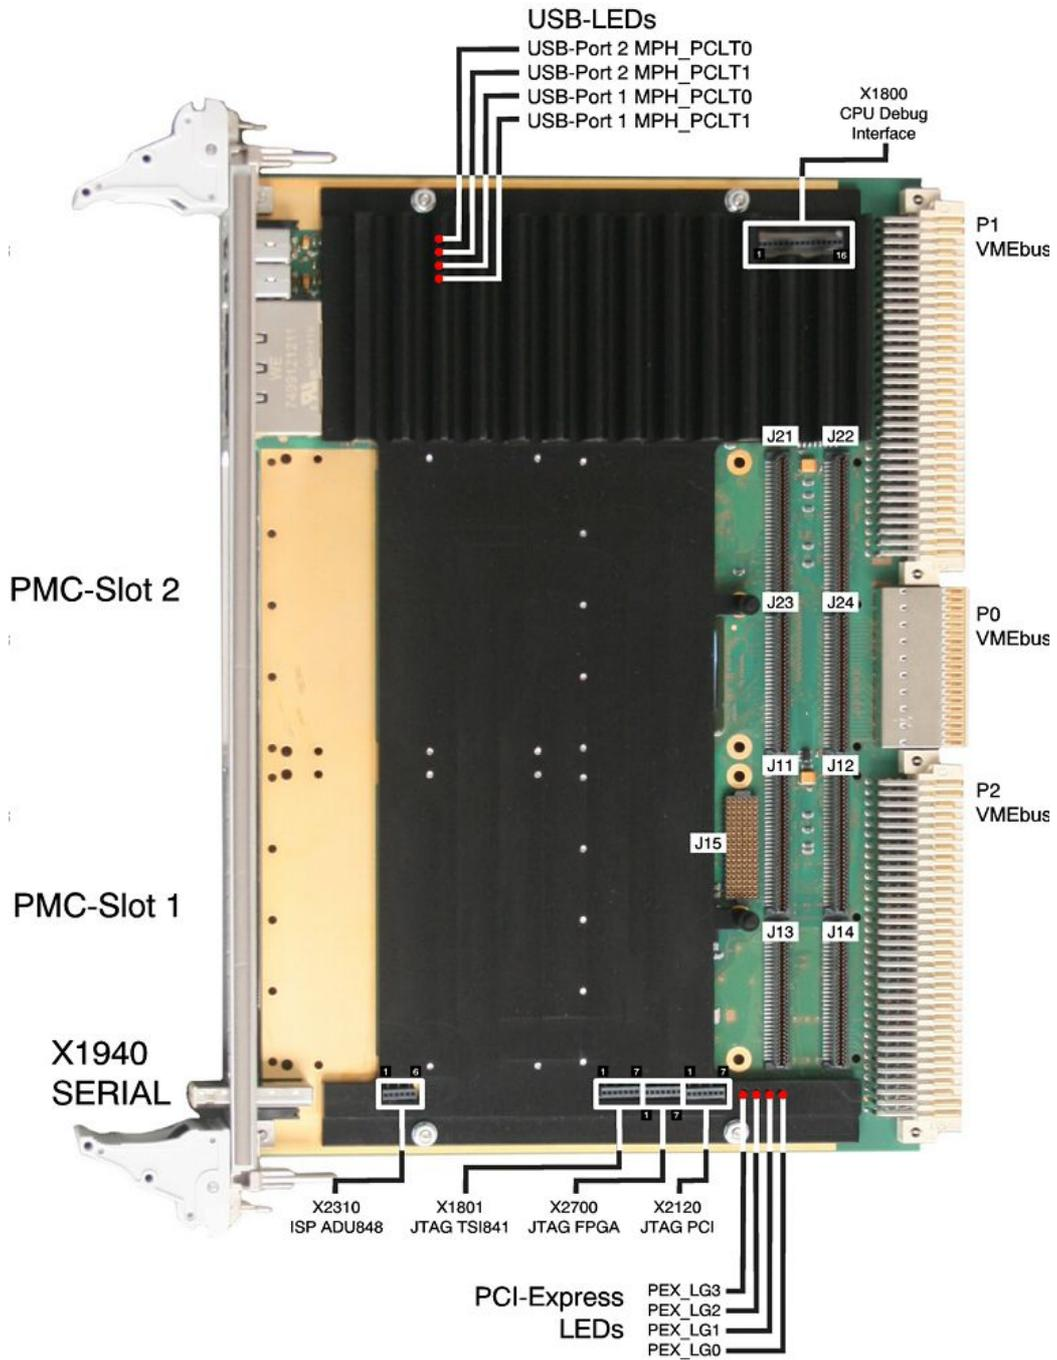
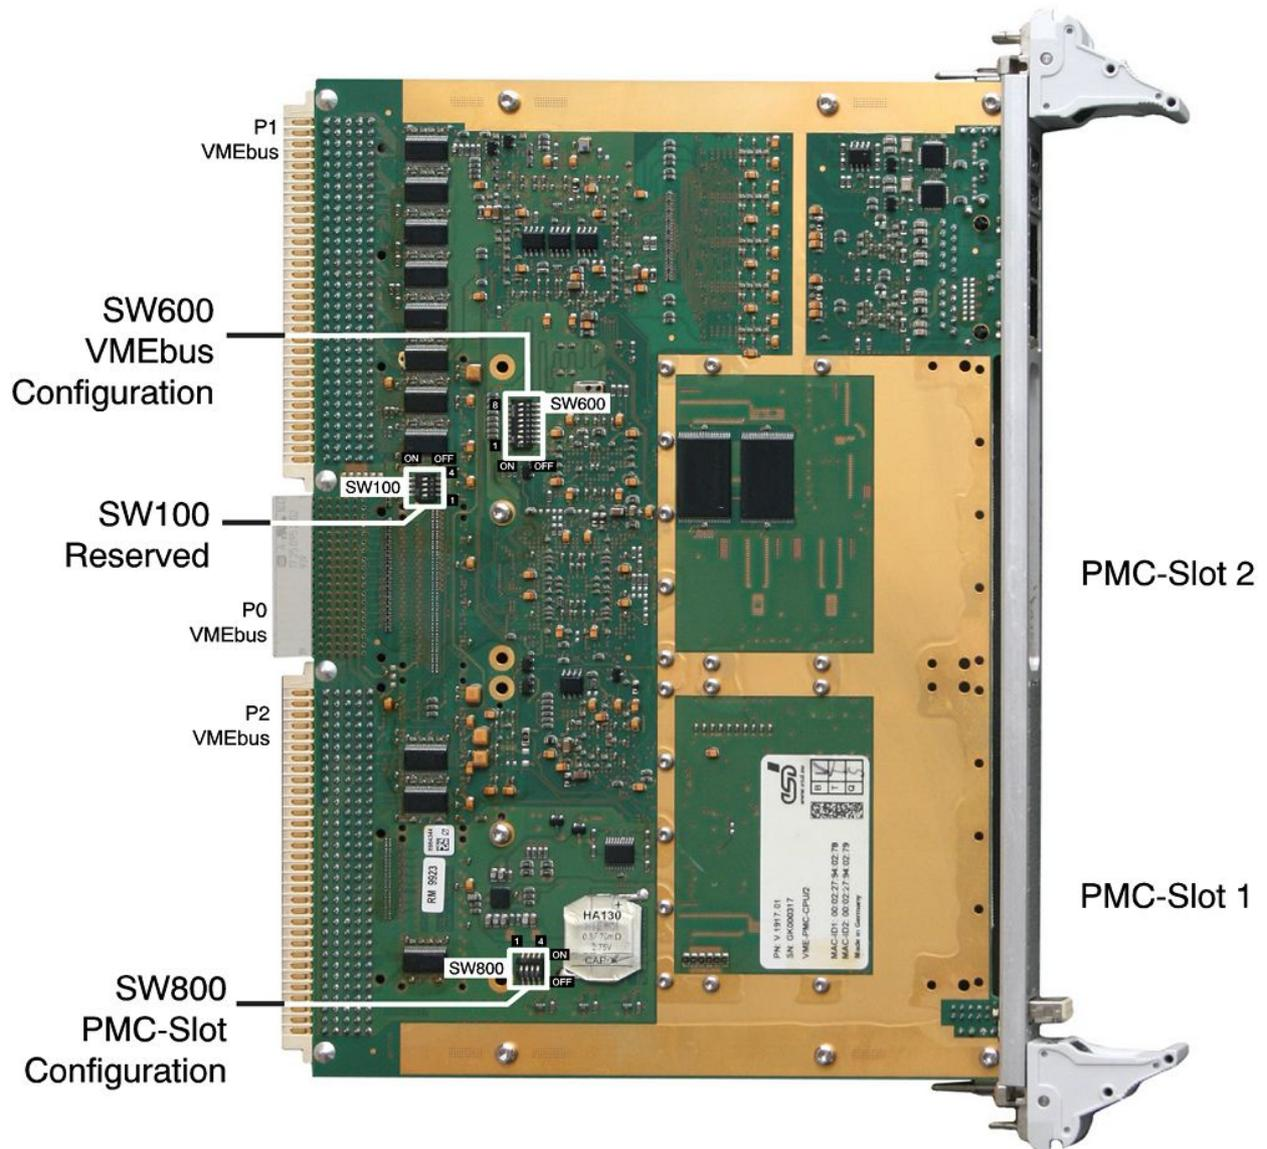

Fig. 6: Top layer view of VME-PMC-CPU/2
Fig. 7: Bottom layer view with coding switches of VME-PMC-CPU/2
The position of the LEDs is described at Fig. 6 on page 15, resp. Fig. 7 on page 16 (conduction cooled version).
* This LED is not located in the front panel. The position of the LED is described at Fig. 6 on page 20, resp. Fig. 7 on page 22 (conduction cooled version).
The position of the coding switches SW800, SW600, SW100 of the VME-PMC-CPU/2-CC is the same as described for the of the VME-PMC-CPU/2, see Figure 7 on page 21.
The default settings of the board are shown in the following table. The coding switches are equipped on the bottom layer of the VME-PMC-CPU/2. The position of the coding switch is shown in Fig. 7 on page 21. In the following descriptions the coding switches are shown as if the board is viewed with the VMEbus connectors on the left (view from PMC slot side).